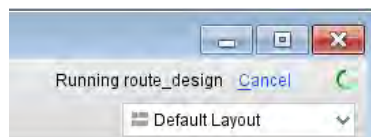

Figure 3-1: Run Status Indicator
- You can find a run status indicator in the project status bar at the upper right corner of the Vivado® IDE, as shown in Figure 3-1. The run status indicator displays a scrolling bar to indicate that the run is in process. You can click **Cancel** to end the run.